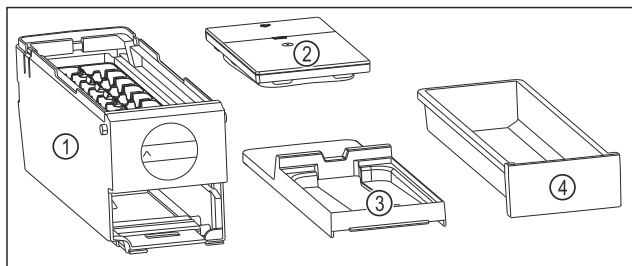

Fig. 107 Components of the EasyTwist-Ice
- EasyTwist-Ice is dismantled into four parts. (see Fig. 107)
- ▶ Only dismantle the EasyTwist-Ice into the components shown. (see Fig. 107)
- ▶ Clean the EasyTwist-Ice body Fig. 107 (1) as a whole.